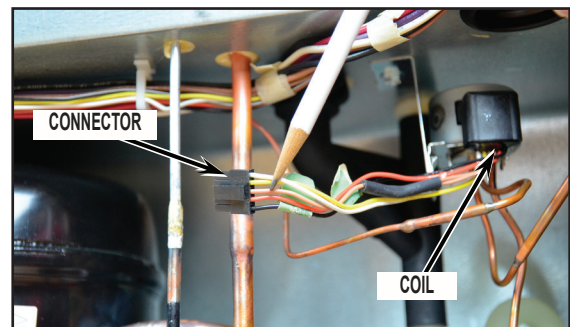

FIGURE 3
4. Disconnect wire harness connector to coil. Straighten the three metal tabs holding the coil on the valve and then lift off. See Figure 3.